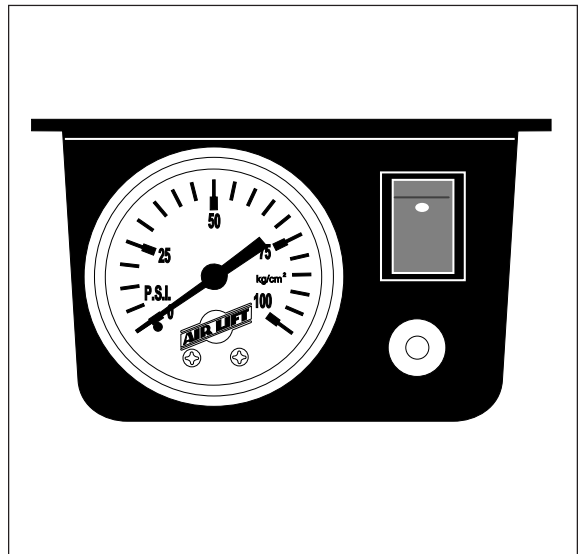

Figure 6
9. Turn on ignition switch. Push on/off switch and observe pressure increase on the air gauge (Figure 6). Inflate to maximum recommended pressure. Inspect each connection with a soap and water solution. If a leak is found in the fittings, reduce air pressure to zero and tighten threaded connections or remove air line, cut off one inch and reattach.
5. To deflate the air springs, depress the button below the on/off switch (Figure 6).